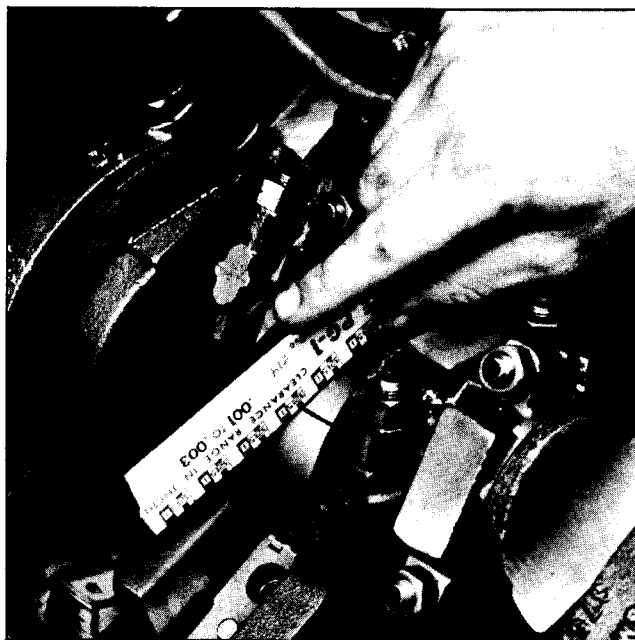

Fig. 6-149 Measuring Plastic Gage
3. Remove bearing cap and using plastic gage scale on envelope (Fig. 6-149), measure width of plastic gage before removing it from the bearing or journal. If the bearing clearance is between the specifications listed below, the clearance is satisfactory. If the clearance is more than the upper limit shown, replace the bearing with the next undersize bearing and recheck clearance. Bearings are available in standard size, .001" and .002" undersize.